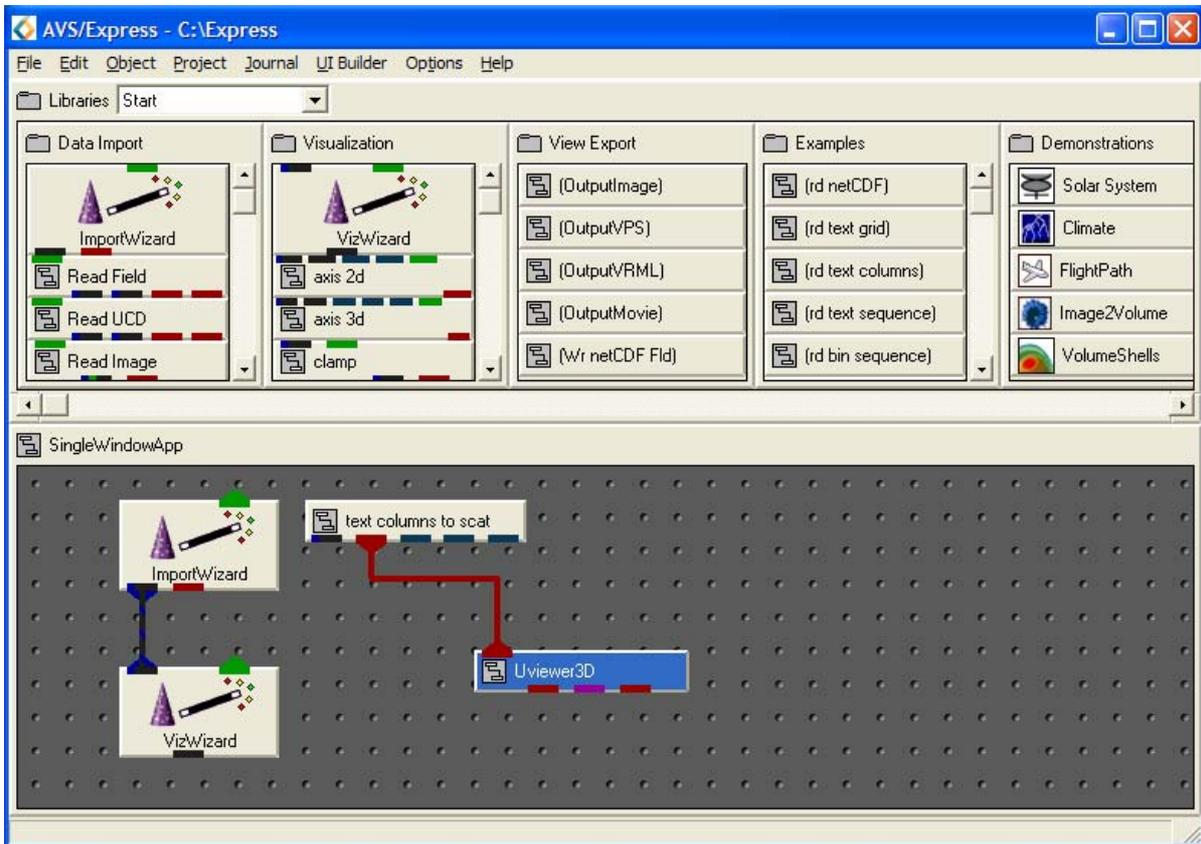

Figure C.28: Network Created by Data\_import\_wizard
- A macro `text columns to scat` has been loaded into the Network Editor by the ImportWizard (Figure C.28).
- Reconnect the `text_columns_to_scatter` macro to the `Uviewer3D` module as shown in Figure C.28.